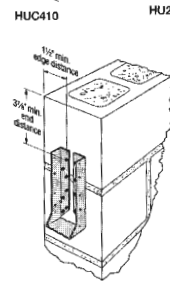

Figure 1 — HUC410 Installed on Masonry Block End Wall
- A minimum edge distance of 1 1/2" and minimum end distance of 3/4" is required as shown in Figure 1 for full uplift load.